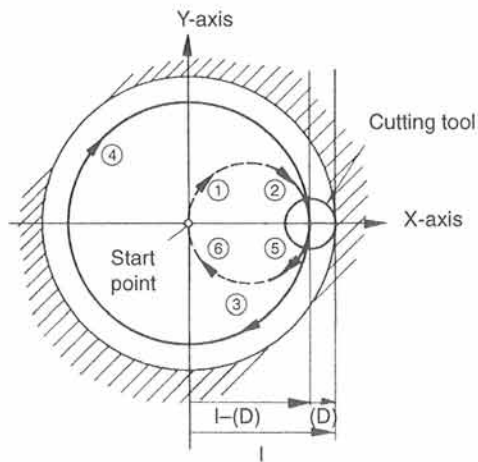
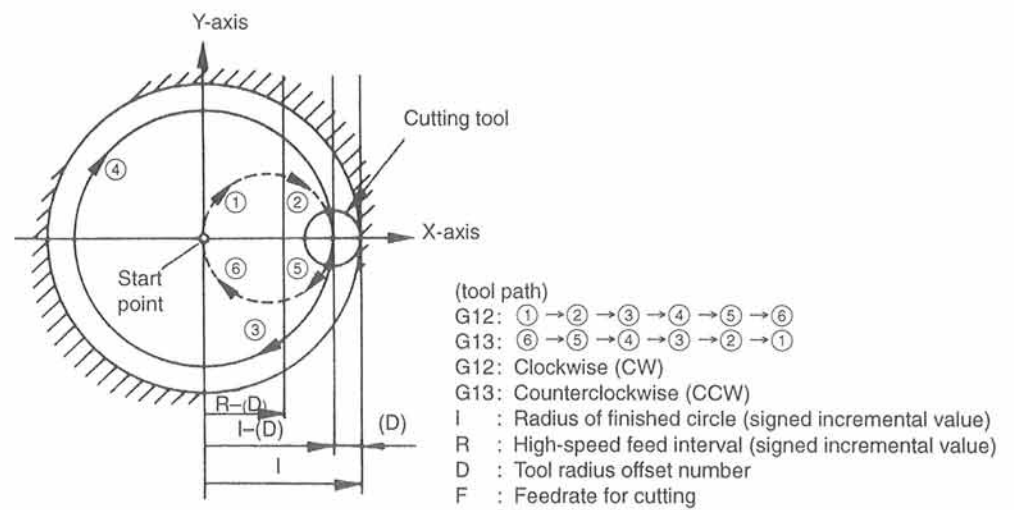

Fig. 4.21 Circle Cutting Commands (G12, G13)
Fig. 4.22 High-speed Feed Interval Designation by R
By specifying "G12 (or G13) I ··· R ··· D ··· F ··· ;", circle cutting is executed in the manner shown in Fig. 4.21. The interval in which a cutting tool is moved at a high speed can be specified by R. In Fig. 4.22, the intervals ① and ⑥ indicate the high-speed feed intervals.